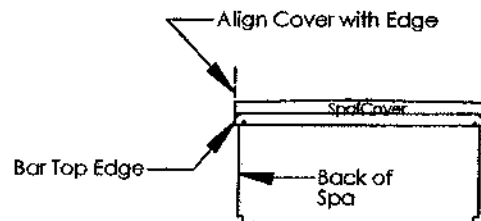

Figure 1
B. Stand at the back of the spa and align the edge of the Spa Cover with the Bar Top Edge. See Figure 1.
D. Install (2) Side Hinges & (2) Rear Hinges on the spa cover as described below:
Now carefully examine the cover to be sure it is still aligned with the outside edge of the bartop (Refer to Fig. 1 on page 2). This is the FINAL Position of cover!